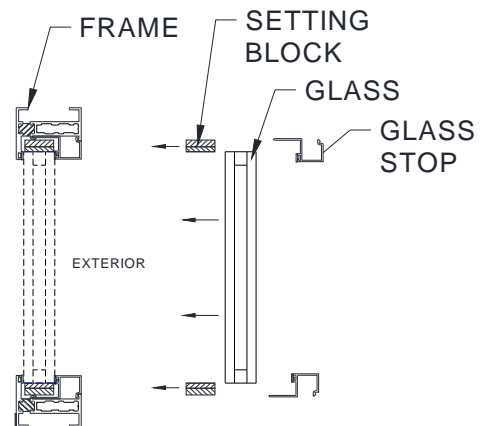

Figure 13:
- Casement:** 1/4 points on the hinge side lower corner (bottom and side) and 1/4 points of the diagonal (top and side) to prevent "sash sag" (Figure 13).
- Install glass to rest on the inner flange of panel then install glass stops (Figure 13).